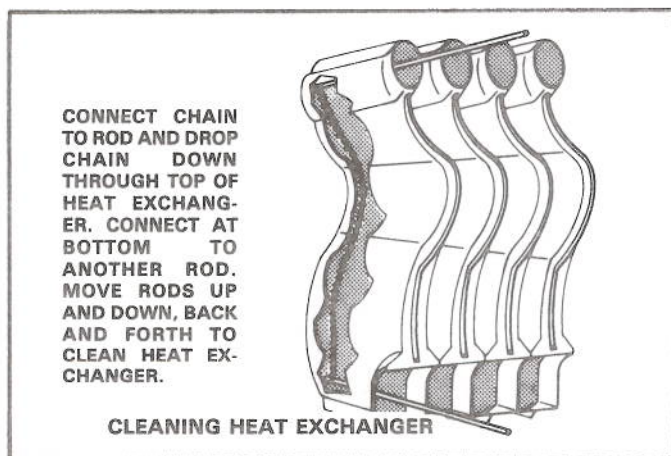

FIGURE 8
- 10 - Attach the bottom of chain to another 2 ft. long rod (Figure 8).